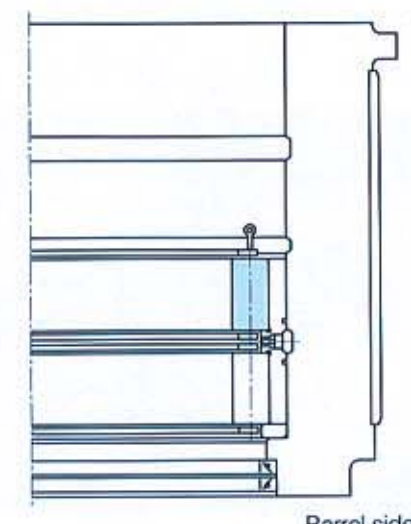

Fig. 3.23
- (7) Apply the lubricant over the roller's rolling surface and to both end surfaces of the row B rollers.
- (8) Place the row B cage with the marked side (row B) facing upward, and install special eyebolts in the four tapped holes in the cage. Lift and insert the cage into the outer ring in the chock. (**Fig. 3.23**)